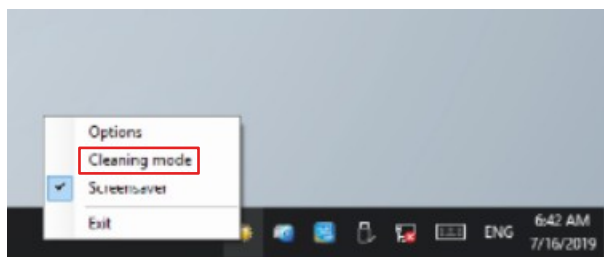

Fig. 26: Select "Cleaning Mode"
You can access the storage media (1), the fan cartridges (2) and the battery (3) via the rear side of the panel PC. The components are located on the top of the connection block under covers (see Fig. 26). Depending on the selected display size of your device, the storage media and battery are either located together under one cover (A) or under separate covers (B). The procedure for replacing the components is the same regardless of the arrangement on the device (see upcoming chapters).